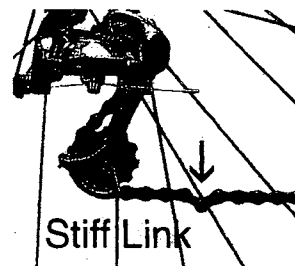

Fig. 13
Step 5 - Check for stiff links (see figure 13).